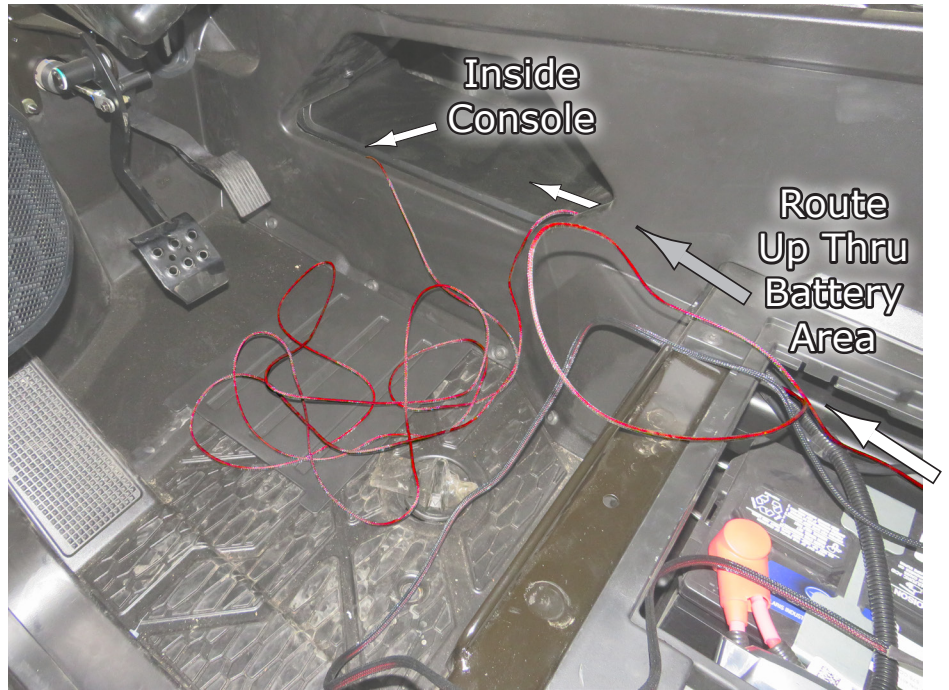

Fig.17
17. Then pull the cable up thru the battery compartment and feed it inside the console along the Driver's side routing towards the front ready to cross over to the Passenger's side. **Fig.17** shows this routing. Notice you will have some excess cable to wrap up and secure when all cables have been hooked up. We left our slack in the floorboard for now until all is hooked up and complete.